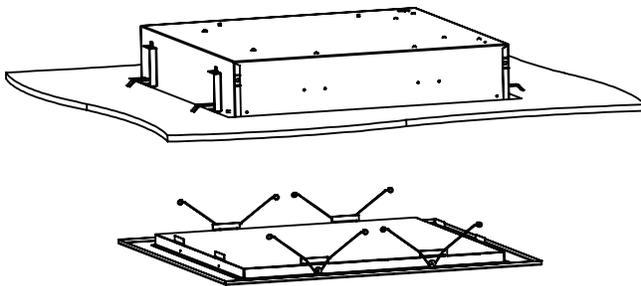

Figure 6
9. Install the door frame and louver assembly, with the openings in the louvers pointed in the correct direction(s) as indicated on the project drawings. (Figure 6 and 7)